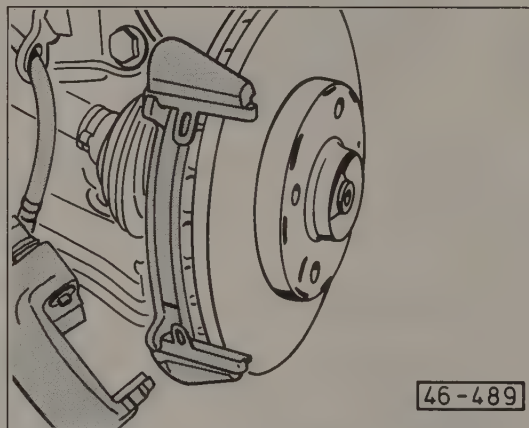

Fig. 5-3. Anti-rattle springs and inner brake pad installed in brake pad carrier.
1. Install the anti-rattle springs on the pad carrier and hold them in place with the inner brake pad, as shown in Fig. 5-3. Then, install the outer pad.